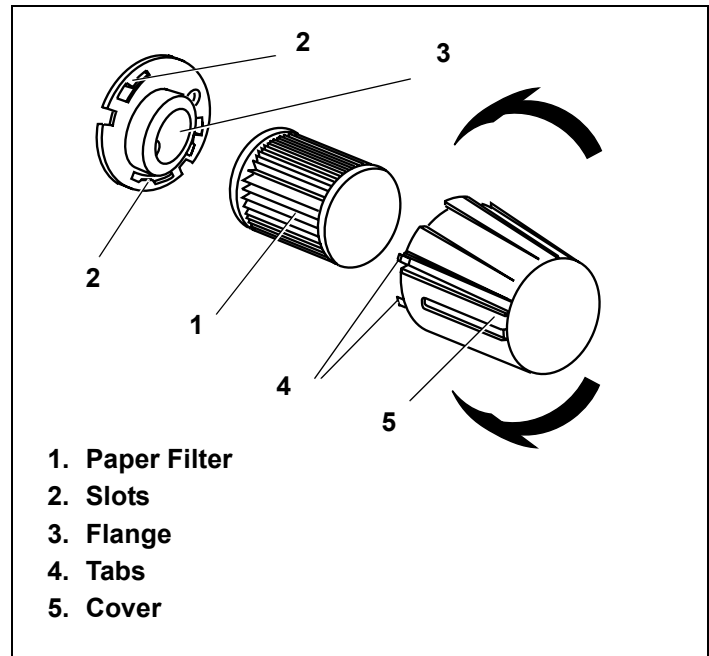

Figure 34. Air Cleaner Assembly
1. Turn cover counterclockwise to remove. See Figure 34.